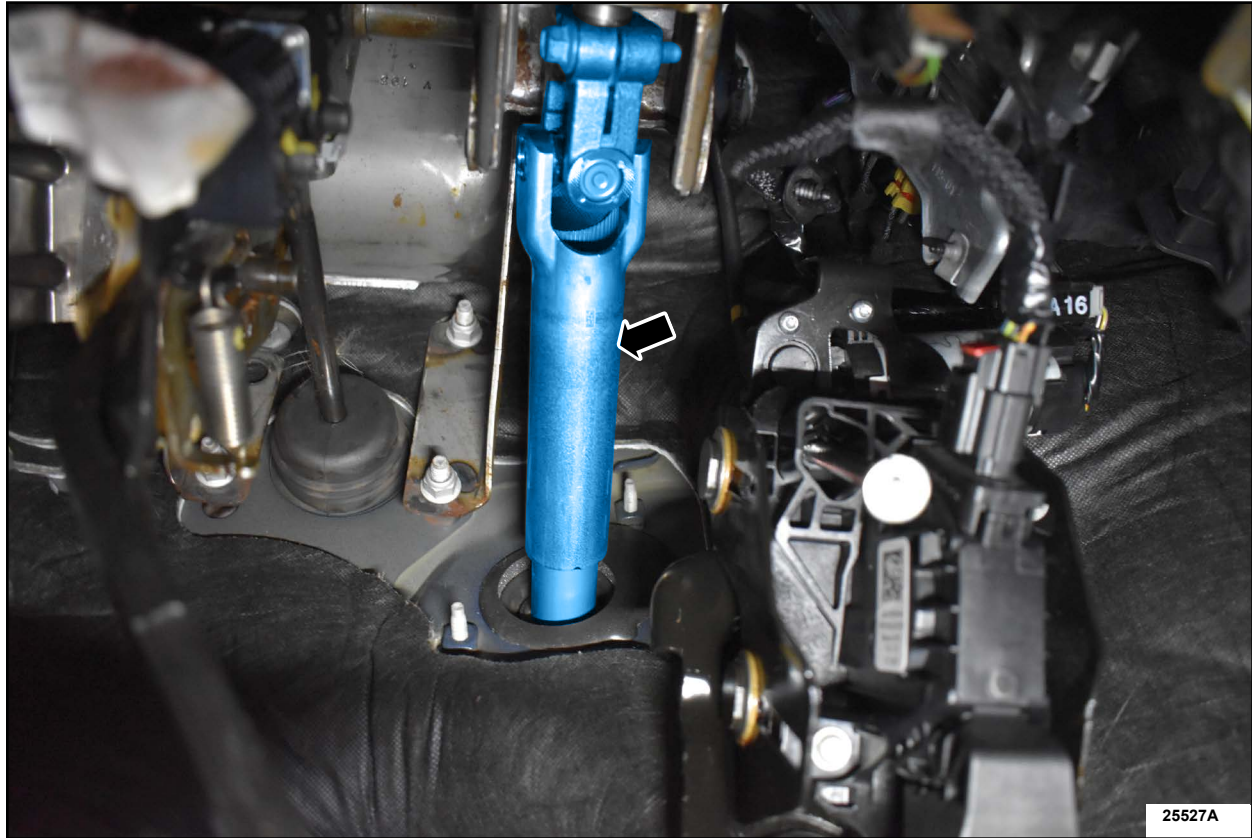

FIGURE 1
1. Locate the steering column upper shaft under the driver side instrument panel. See Figure 1.